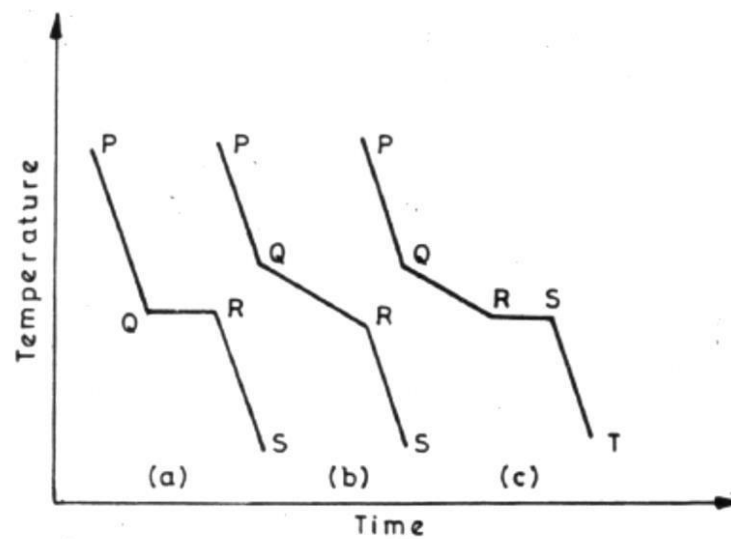

Fig.4.1 - Cooling curves for (a) Pure Metal or compound
- ▶ The data obtained in this manner forms a cooling curve for each of the alloys. (Fig4.1)